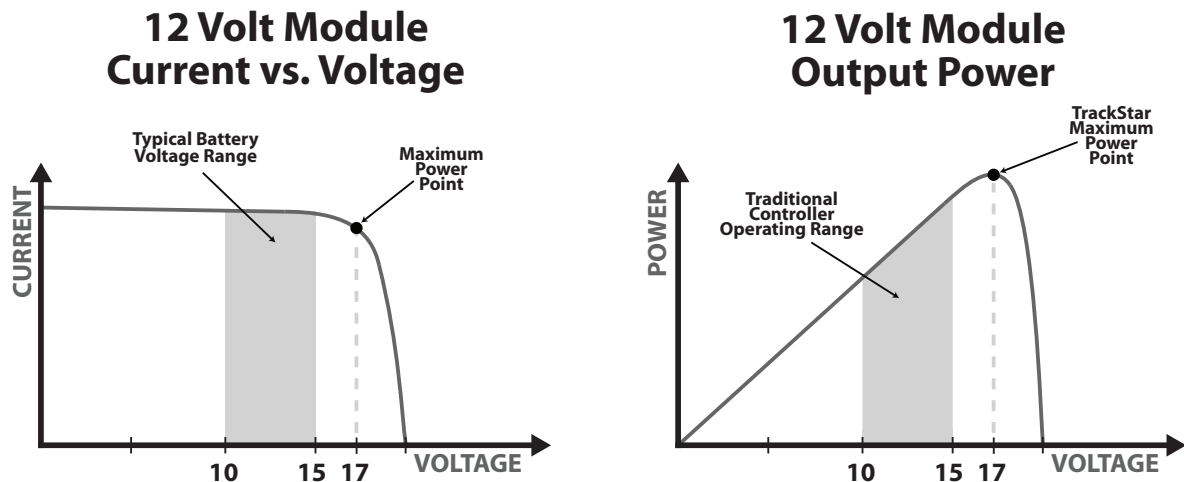

Figure 4-1. Nominal 12 Volt Solar Module I-V curve and output power graph.
Traditional controllers connect the solar module directly to the battery when recharging. This requires that the solar module operate in a voltage range that is usually below the module's V_{mp} . In a 12 Volt system for example, the battery voltage may range from 10 - 15 Vdc, but the module's V_{mp} is typically around 16 or 17 Volts. Figure 4-1 shows typical current vs. voltage and power output curves for a nominal 12 Volt off-grid module.
The array V_{mp} is the voltage where the product of output current and voltage (Amps x Volts) is greatest, which falls on the “knee” of the solar module I-V curve as shown on the left in Figure 4-1.
The TriStar MPPT 150V provides seven (7) standard battery charging settings that are selected with the settings switches (see Figure 4.1 above). These standard charging settings are suitable for lead-acid batteries ranging from sealed (gel, AGM, maintenance-free) to Flooded and L-16 cells. In addition, an 8th charging setting provides for custom set-points using MSView™ PC software.